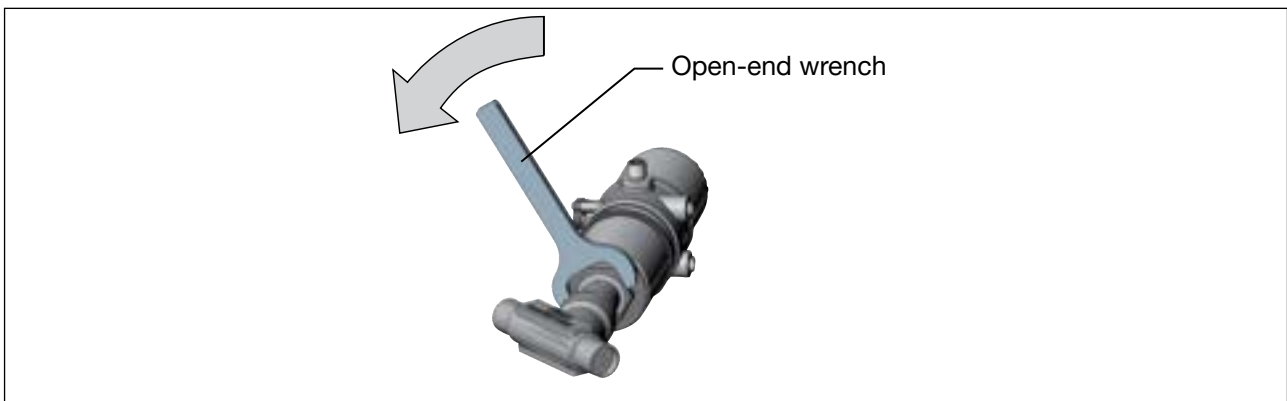

Figure 17: Rotating with open-end wrench
- ▶ Rotate the actuator module counter-clockwise only (see "Figure 17").